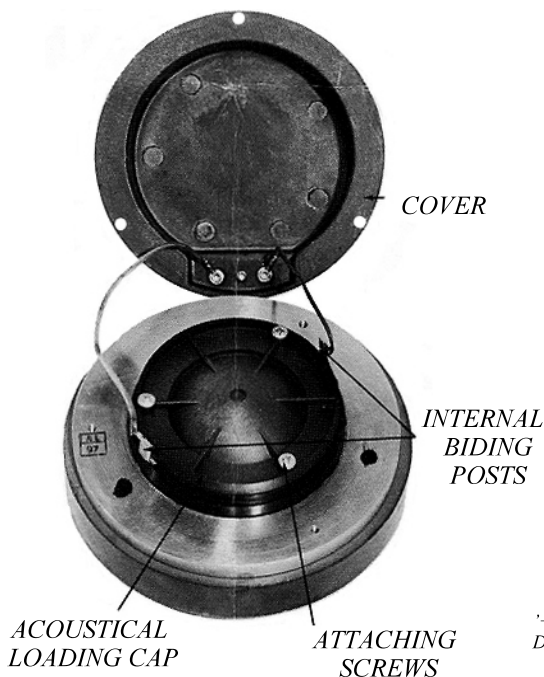
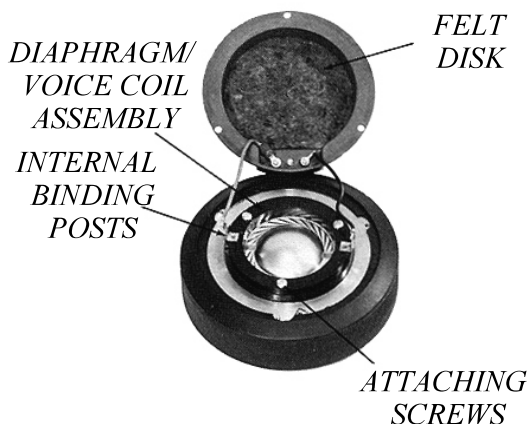

Figure 2. Typical Altec® 900-Series H.F. Driver with Acoustical Loading Cap
Figure 3. Typical 900-Series Altec® H.F. Driver without Acoustical Loading Cap
4. Lift cover from the driver and remove the two leads from their internal binding posts; set cover aside. Please note that some models were equipped with an acoustical loading cap (Figure 2), while others were provided with an acoustical absorbent felt disc (Figure 3), instead of a loading cap.
5. Remove three screws securing acoustical loading cap (Figure 2), or diaphragm and voice coil assembly
(Figure 3). For models using an acoustical loading cap, set it to one side until ready to re-install.